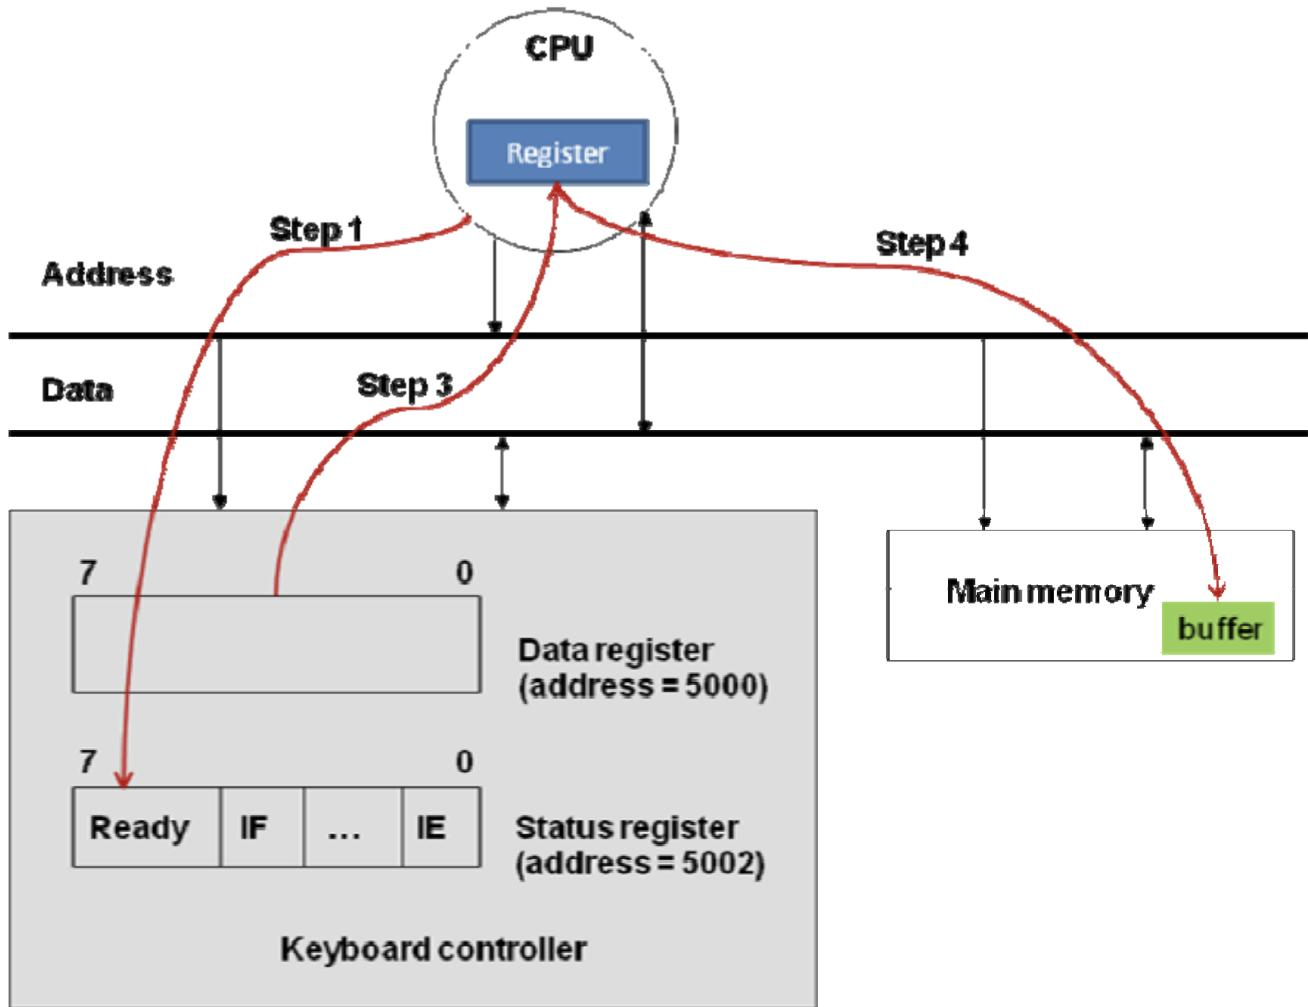

Figure 10.2: An example of PIO Data Transfer
1. Check the ready bit (step 1 in Figure 10.2).
3. Read the contents of the data register (step 3 in Figure 10.2).
4. Store the character read into memory (step 4 in Figure 10.2).